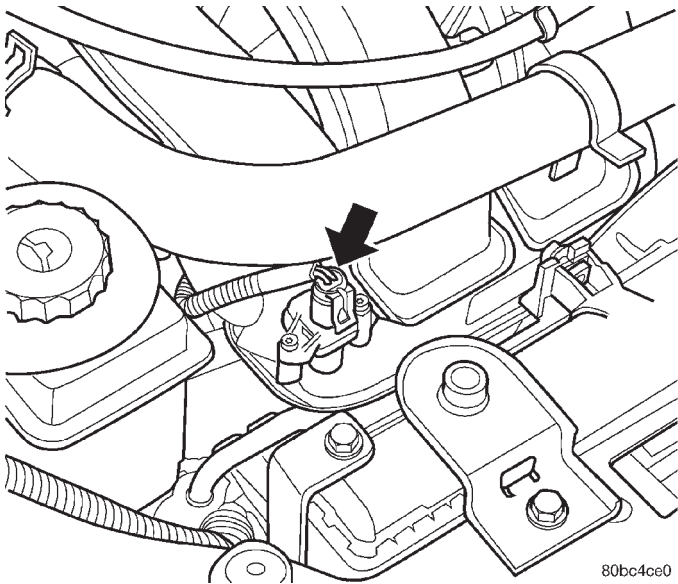
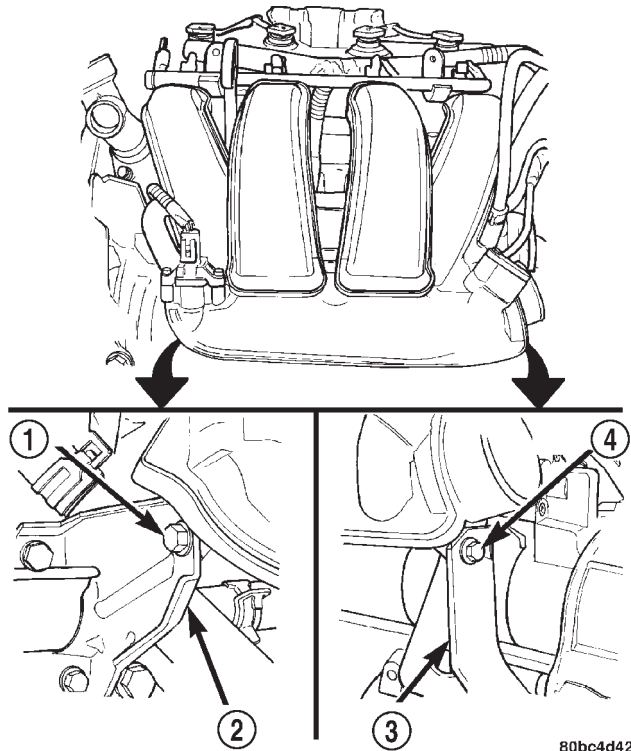

Fig. 29 MAP Sensor
Fig. 31 Intake Manifold Lower Supports
(7) Disconnect Manifold Absolute Pressure (MAP) sensor electrical connector (Fig. 29).
(9) Disconnect wiring at starter.
(10) Remove the intake manifold to lower support bracket bolts (Fig. 31).
(11) Remove intake manifold screws and washers. Discard the fasteners. Remove intake manifold.
(2) Install intake manifold to lower support bracket bolts (Fig. 31). Tighten bolts to 11 N·m (95 in. lbs.).
(3) Remove covering from fuel injector holes and insure the holes are clean. Install fuel rail assembly to intake manifold. Tighten screws to 23 N·m (200 in. lbs.).
(4) Connect PCV and brake booster hoses.
(5) Inspect quick connect fittings for damage, replace if necessary Refer to Group 14, Fuel System for procedure. Apply a light amount of clean engine oil to fuel inlet tube. Connect fuel supply hose to fuel rail assembly. Check connection by pulling on connector to insure it locked into position.
(6) Connect Manifold Absolute Pressure (MAP) Sensor wiring connector (Fig. 29).